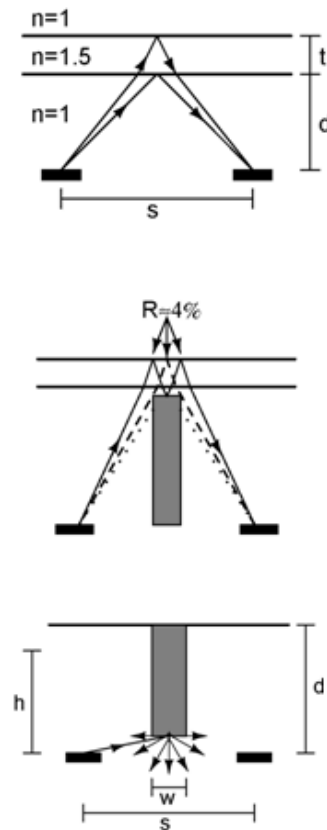

Fig. 27: Top: Optical crosstalk via cover glass. Middle: Crosstalk via cover glass & separator's top surface. Bottom: Crosstalk via bottom side of a separator.
Fig. 27 shows additional sources of crosstalk:
b) If an air gap between separator and cover glass exists, additional light paths between emitter and detector may be created. Especially, when the surface of the separator is reflective, light from the emitter may reach the detector via multiple reflections (see also Fig. 27). In order to avoid this, the surface of the separator should be diffusely reflective. Additionally, it should be placed as close to the cover glass as possible.